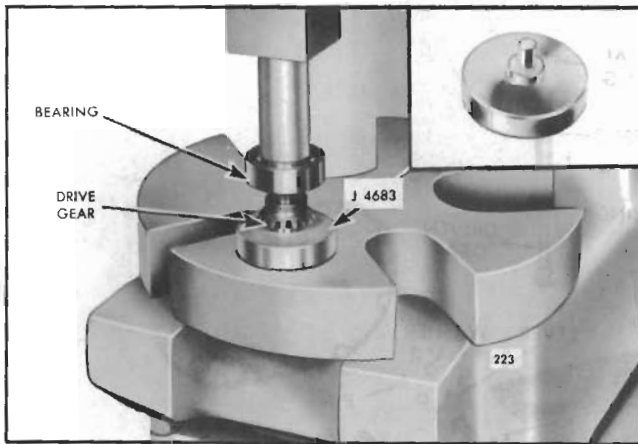

Fig. 16 - Installing Bearing on Drive Gear
- b. Place the beveled end of the drive gear on the bearing installer J 4683 and place the assembly on the bed of an arbor press as shown in Fig. 16. Then place a sleeve on the inner race of the bearing and press the bearing tight against the shoulder on the drive gear.